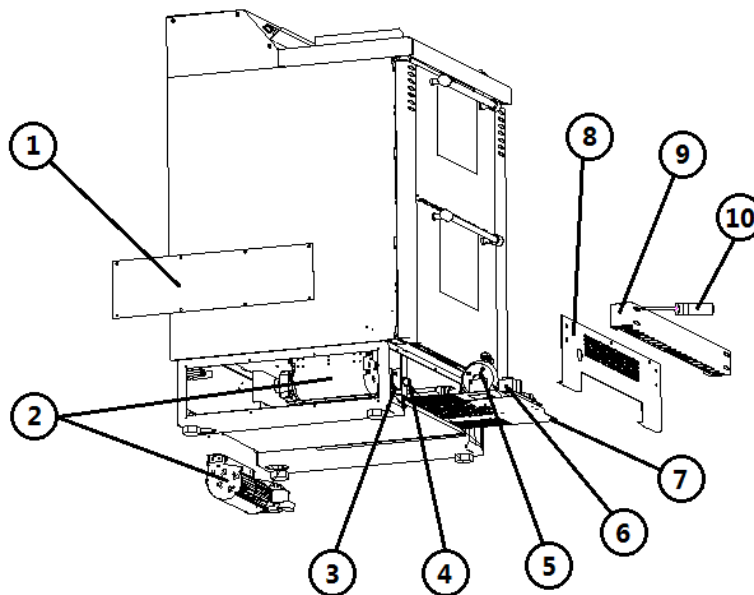

Fig. 34 - Side view
LEGEND	Fig. 34 page 32
- Detach the lower control panel by loosening the 4 screws inside the slots (see **Fig. 34 page 32**).
- Loosen the 8 screws on the left and right hand side covers of the base (see **Fig. 34 page 32**).